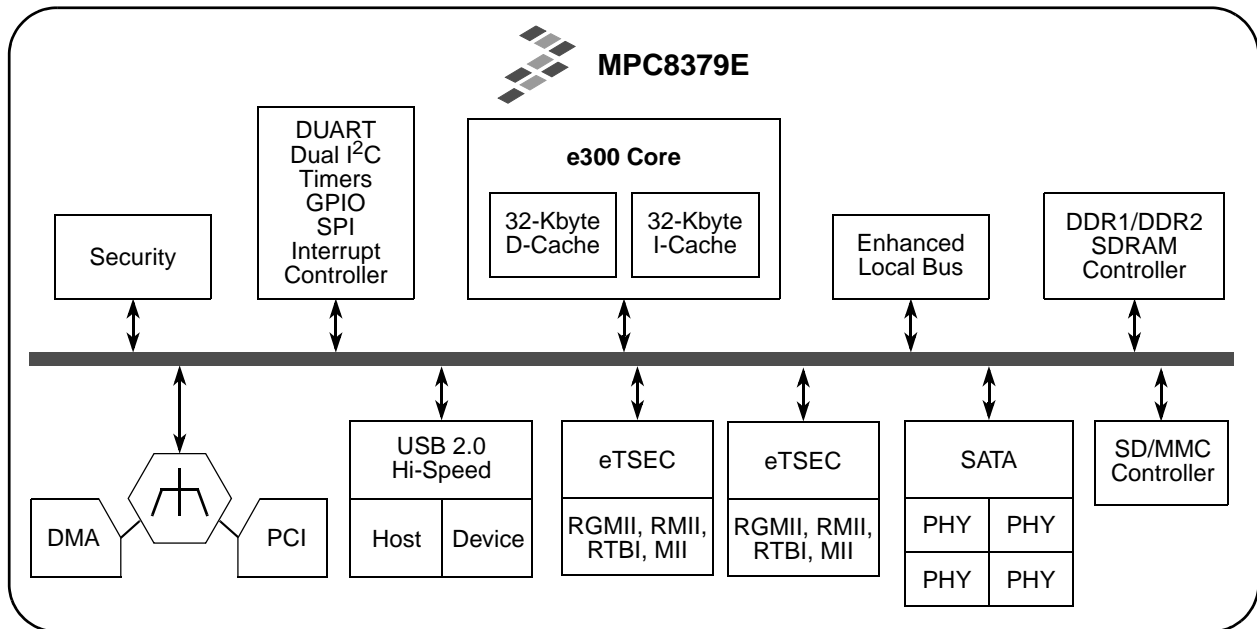

Figure 1. MPC8379E Block Diagram and Features
2.0 dual-role controller, a programmable interrupt controller, dual I²C controllers, a 4-channel DMA controller, an enhanced secured digital host controller, and a general-purpose I/O port. Figure 1 shows the block diagram of the MPC8379E.